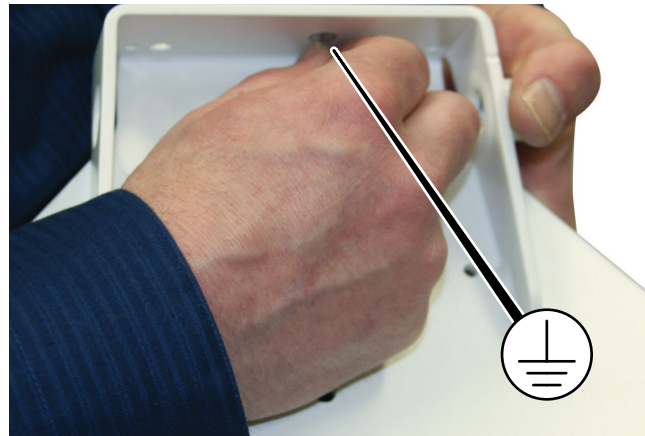

Figure 6. Grounding Set Screw
1. Install the grounding set screw in the threaded hole indicated by the grounding label (Figure 6).